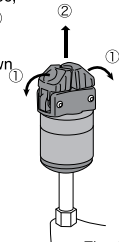

Fig. 1
To remove the WingLoc, pull the wings apart ① and lift the WingLoc straight up ② as shown in (Fig. 1).